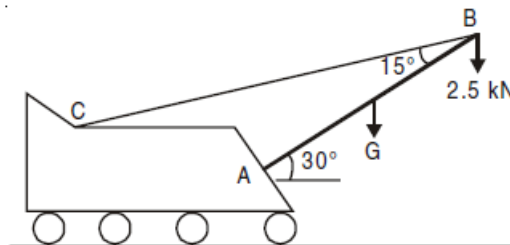

Fig.4
6. Fig.4. shows 12 m boom AB weighs 1 kN, the distance of the centre of gravity G being 6 m from A. For the position shown, determine the tension T in the cable and the reaction at B. [L4] [12 M]